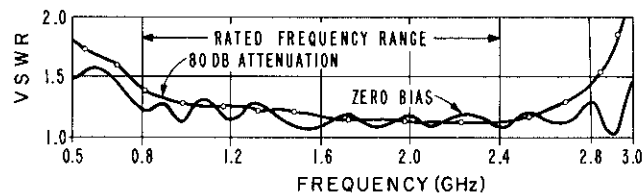

Figure 7. Typical SWR of a PIN Modulator (8732B)
20. The PIN Modulator has a good impedance match at all levels of attenuation over its frequency range. This match is illustrated in Figure 7 which shows the SWR of a typical PIN Modulator measured under both zero bias and maximum forward bias conditions. Hence, with this constant match, frequency pulling effects due to the PIN Modulator is negligible. If the PIN Modulator is used outside specified frequency range, SWR characteristics will be degraded in addition to other operating specifications. However, spurious responses can result when exceeding specified frequency range. Note: exceeding band limits by a large degree is not generally practical.